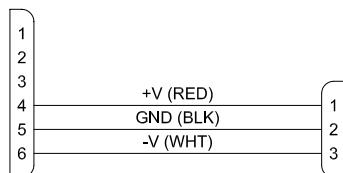

Figure 18. 3500-D Power Cable with 3-Contact Plug
- The 3500-D may obtain power from PESA system components having 3-contact power connectors by using a power cable assembly (Part No. 81-9065-1653-0) constructed as shown in Figure 18. If this cable must be constructed in the field, please consult WI50-0238 for assembly details. This cable may be used with the following equipment: